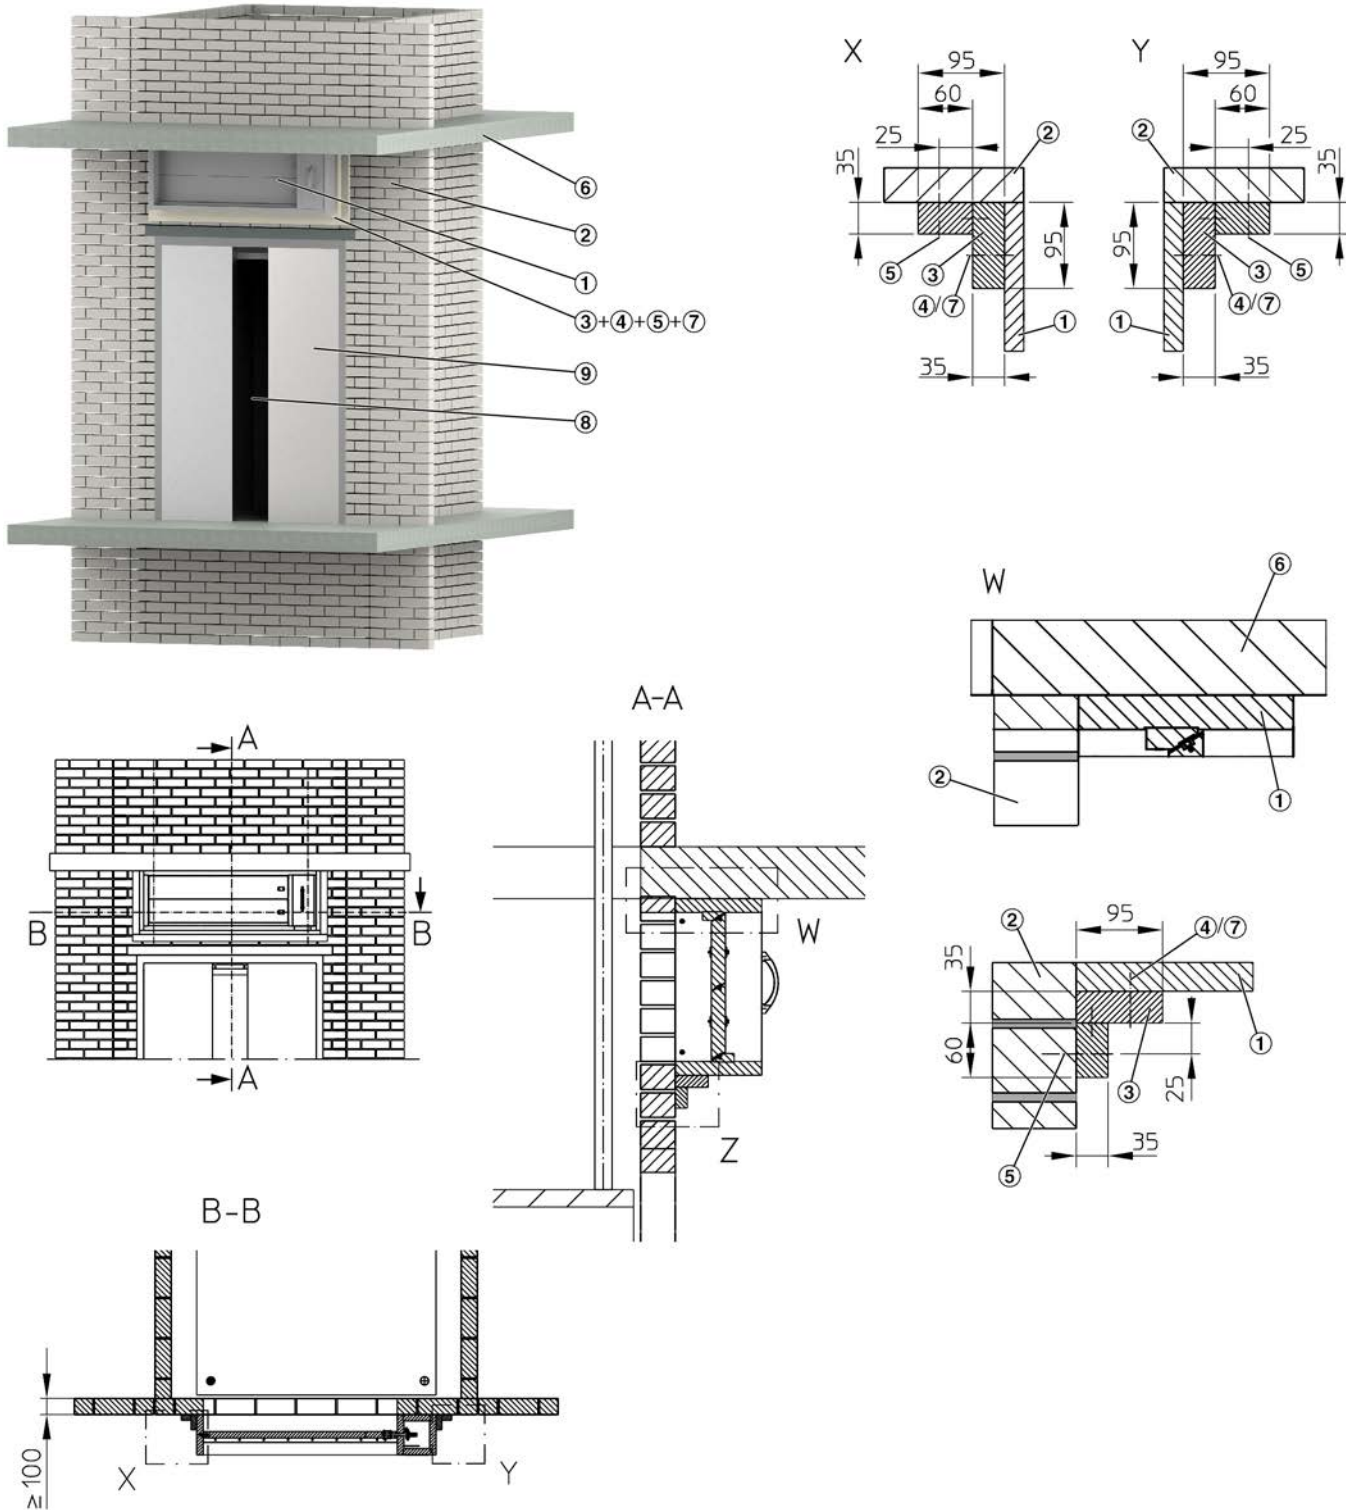

Fig. 25: Dry mortarless installation in solid shaft wall (lift for fire and rescue service)
2. ▶ Use two strips of fire-rated board to make an angle section ( Fig. 25 /3), then fix the angle section to the underside of the smoke control damper.
Apply glue to the joints ( Fig. 25 /2) between the angle sections and between the angle sections and the casing (e. g. K84, Promat or equivalent) then fix the angle sections with dry wall screws 4 × 70 mm to the damper casing (pre-drill holes  $\varnothing 3$  mm), distance between screws  $\leq 200$  mm.